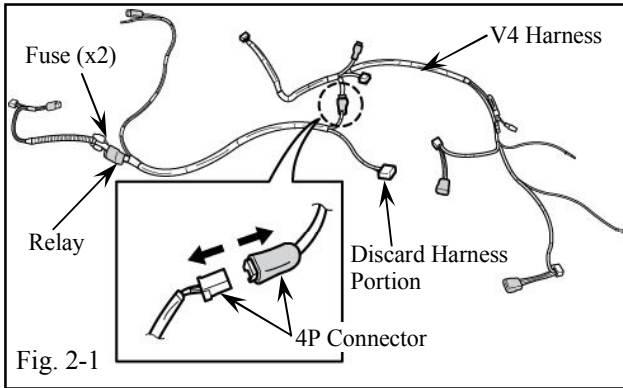

Fig. 2-1
- (a) Locate and disconnect the Blue 4P Connectors on the V4 Wire Harness. (Fig. 2-1)
- (1) Discard the V4 Harness's Blue Male 4P Connector Side of Harness. (include the fuse and relay).